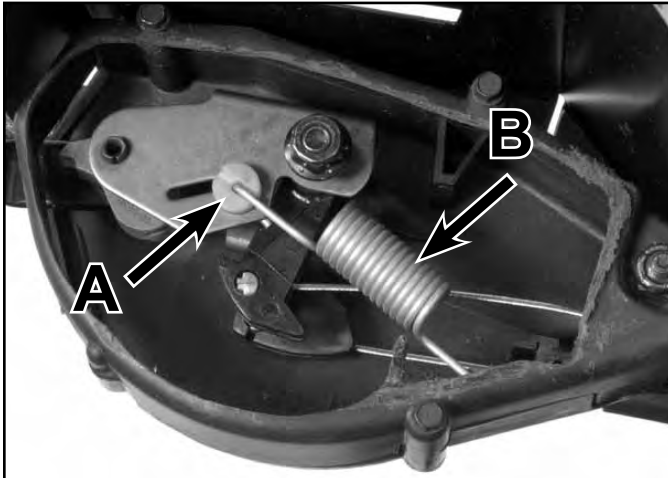

Fig 191
- Slip the white nylon washer onto the J end of the buckling spring. The slotted side of the washer should face away from the end of the spring. Slip the spring into position in the rocker arm and the left control housing as shown in Figure 191.